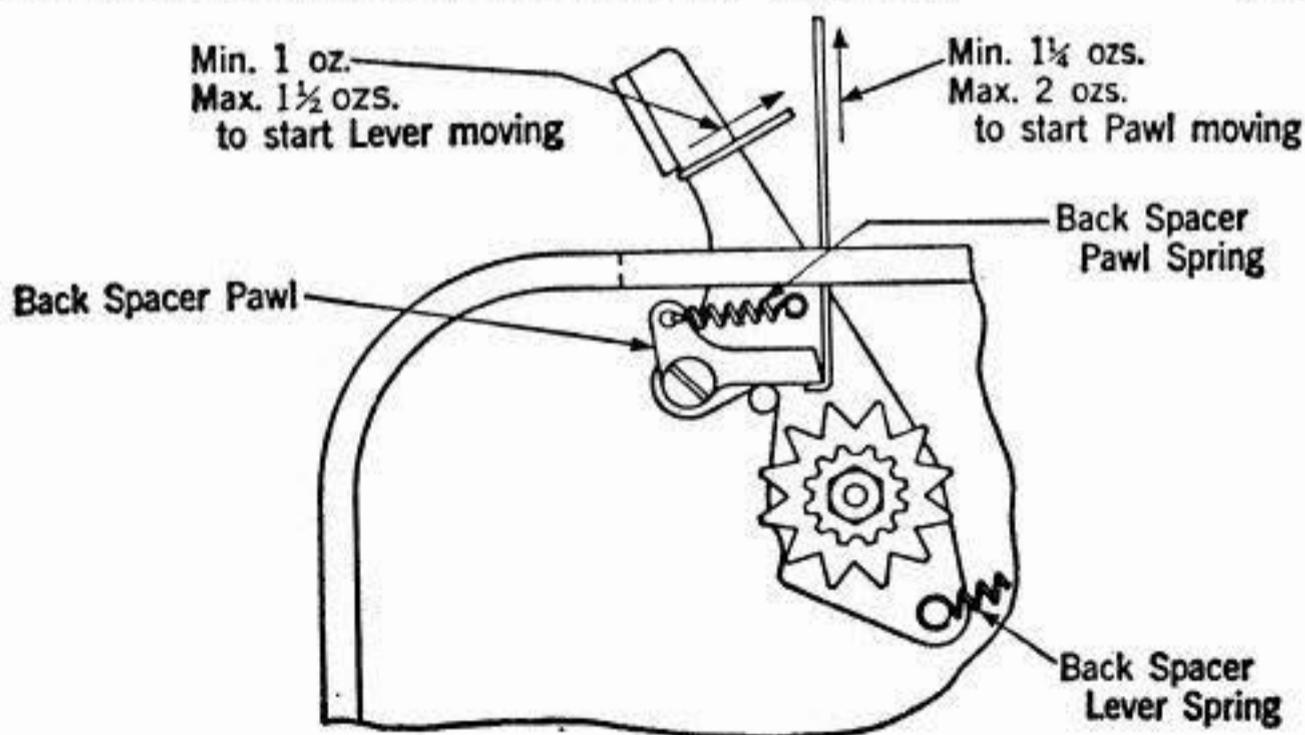

Fig. 7
3.15 Tension of **back-spacer-pawl spring** should be Min 1-1/4 oz, Max 2 oz, measured at end of pawl when back-spacer lever is in its released position. **Fig. 7**
3.16 Tension of **back-spacer-lever spring** should be Min 1 oz, Max 1-1/2 oz, measured adjacent to cover plate when the lever is in its released position. **Fig. 7**